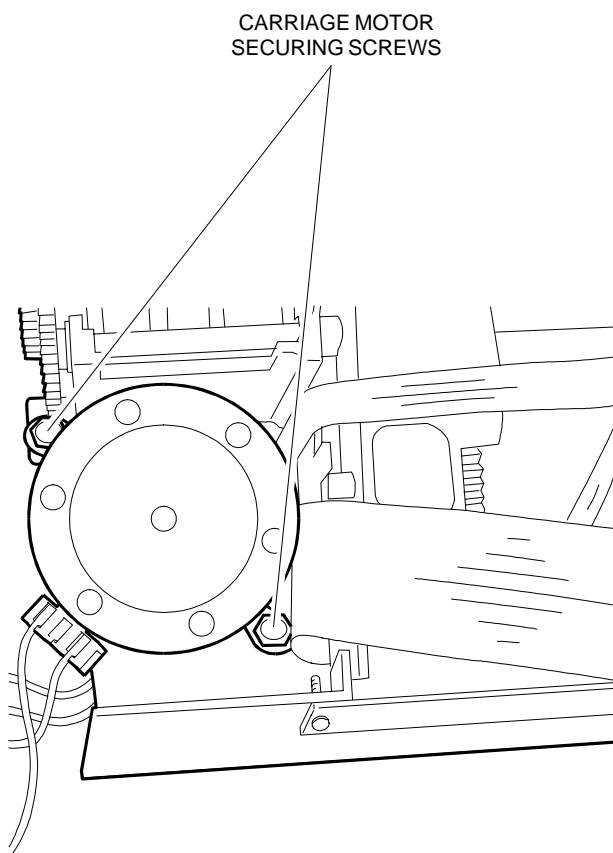

Figure 5-23
- Remove the carriage motor (Section 5.8) as shown in Figure 5-23.